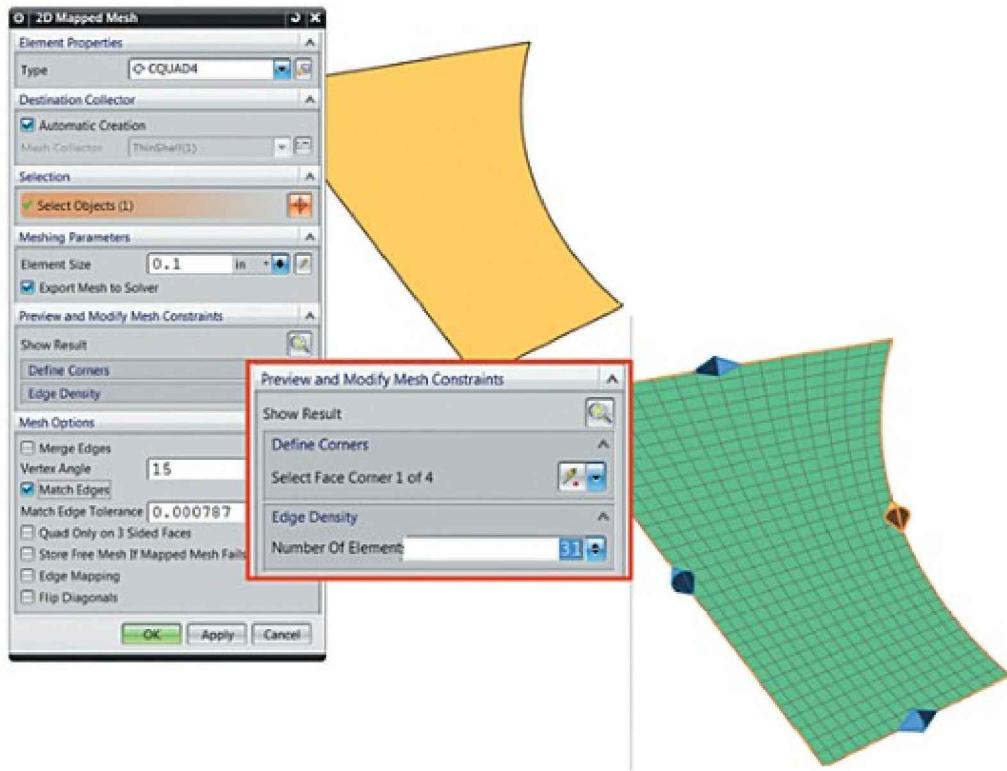

Figure 3.26. Creating a 2D regular mesh
You can create a 2D regular mesh on the specified faces in the **2D Mapped Mesh** dialog box by specifying mandatory parameters (Figure 3.26):
- After specifying the primary parameters for mesh generation you should preview the results. To do so, in the *Preview and Modify Mesh Constraints* group, click *Show Result*. The following options become available (Figure 3.26):